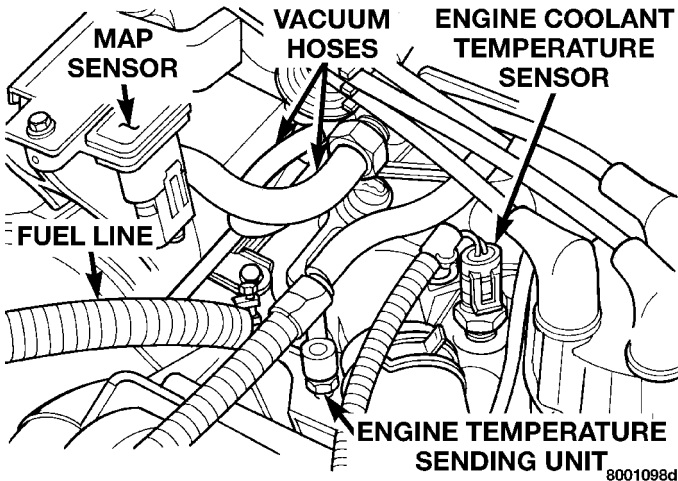

Fig. 3 Manifold Absolute Pressure Sensor
(1) Remove vacuum hose and mounting screws from manifold absolute pressure (MAP) sensor (Fig. 3).
(2) Disconnect electrical connector from sensor. Remove sensor.
The sensor is installed next to the thermostat housing (Fig. 3).